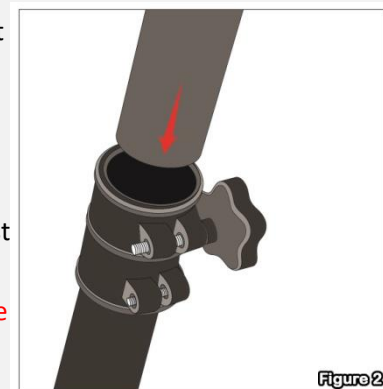
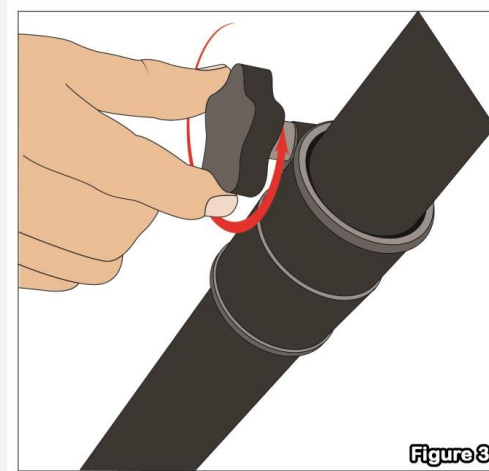

Figure 2
Figure 3
Step 2 – **Figure 2** is about the top the tripod stand, which is already inserted and can be adjusted by the use of the knob. Loosen the knob to adjust the height and tighten to secure as shown in **Figure 3**.